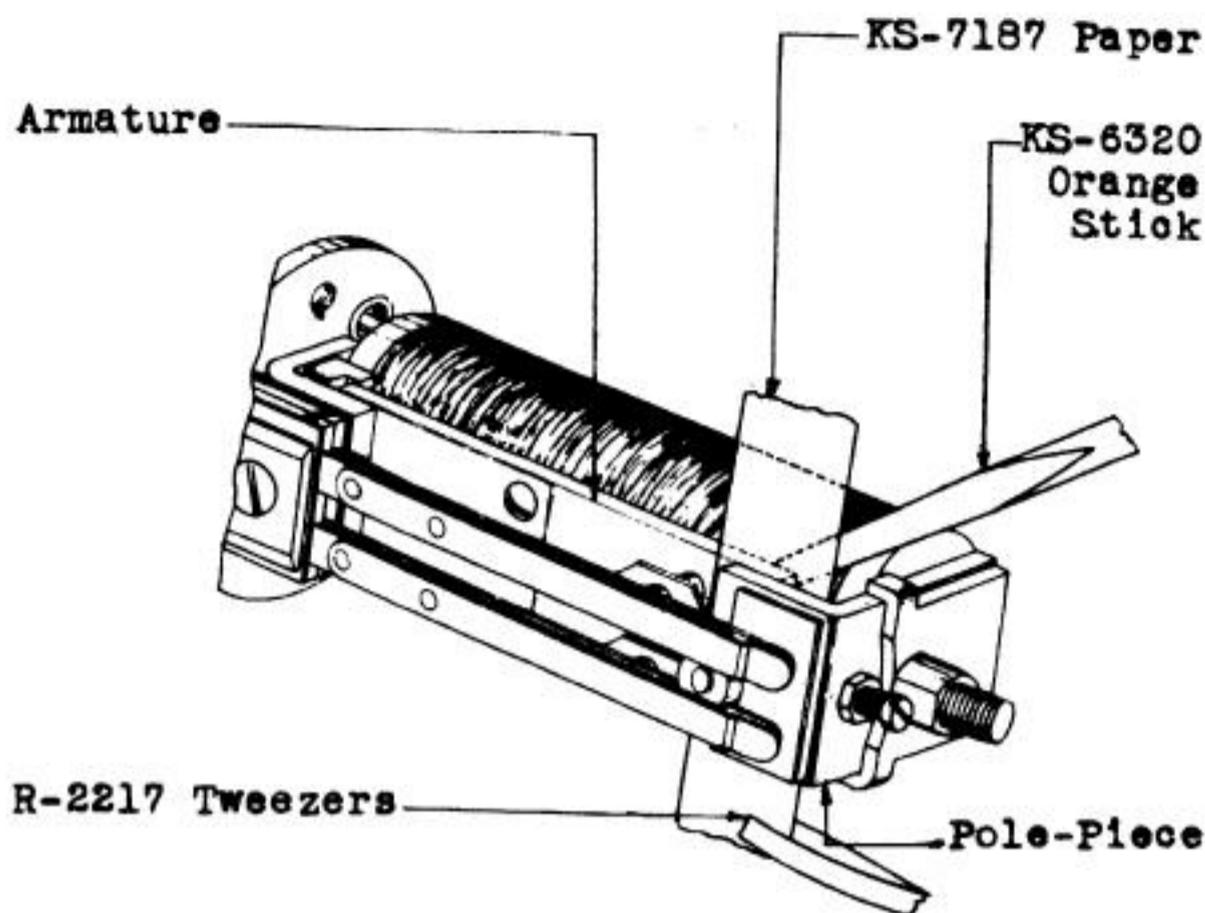

Fig. 28 - Method of Cleaning Armature and Pole-piece on 111 and Similar Type Relays
6.05 Cleaning Armature and Pole-Pieces of 111, 121, 122, 125, 149, 162, 163, 178, and 179 type relays. Thread KS-7187 paper between the armature and pole-piece. If the relay mounting does not permit this to be done with the fingers use the R2217 tweezers or the long nose pliers. Press the armature toward the pole-piece with a KS-6320 orange stick so that a slight pressure exists between the strip of paper and the parts being cleaned and then withdraw the paper. See Fig. 28. Take care not to tear the paper as it is being removed. Repeat the operation until the paper shows no evidence of dirt when it is removed. Use a clean piece of paper for each operation.
14. To illustrate the procedure for cleaning armatures and pole-pieces of 111 and similar type relays (Fig. 28).